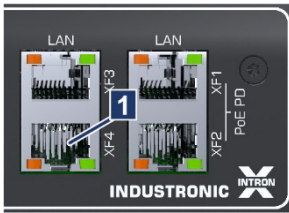

Fig. 5-4: Ethernet port XF4
2. Connect the controller to the PC/notebook (→ Fig. 5-4/1) via the *XF4* Ethernet interface.